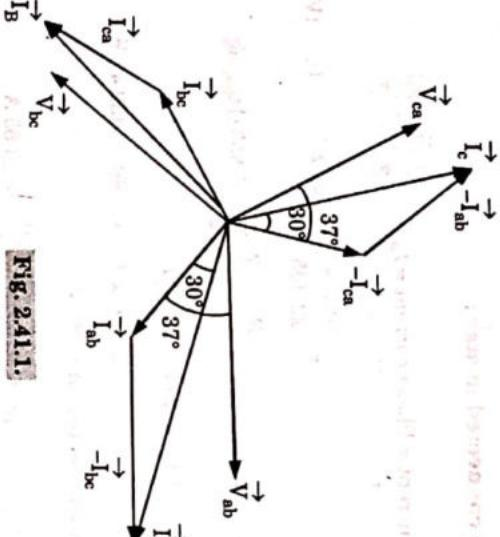

Fig. 2.41.1.
- Phasor diagram is shown in Fig. 2.41.1.